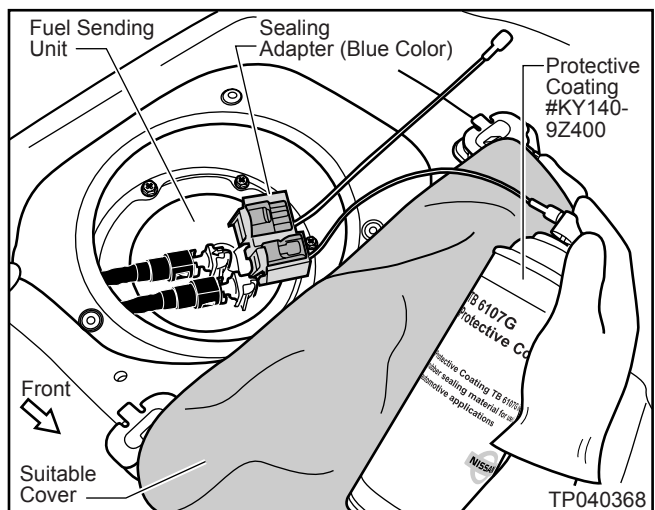

Figure 34
3. Spray the Protective Coating #KY140-9Z400 through each Adapter Tube for about two seconds (see Figure 34).